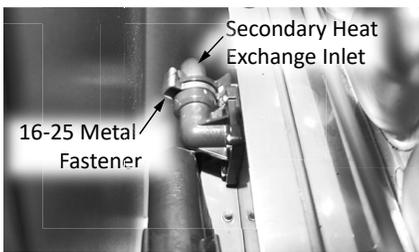
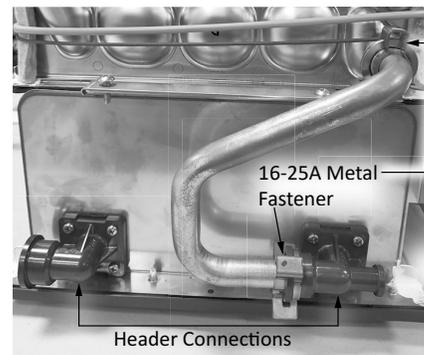

Figure 47: Secondary Heat Exchanger Inlet Connection.
Figure 53: Header Connection Removal
- 20 On the left-back side of the secondary heat exchanger, locate the copper pipe connected to the secondary heat exchanger inlet (# 466). Remove the 16-25A metal fastener and disconnect the copper pipe from the secondary heat exchanger. Space is restricted so you will need to have the pipes disconnected in steps 17 and 18 moved aside to allow access. Set the metal fastener aside for re-installation. See Figure 47.
- 25 Remove the 16-25A metal fastener securing the copper pipe to the primary heat exchanger (# 467). See Figure 53.
32 Reconnect the copper pipe (# 467) using the 16-25A metal fastener. Use the provided O-ring. Inspect the O-rings if any cuts or nicks are present replace it immediately. See Figure 53.
35 Reconnect the copper pipe (# 466) to the secondary heat exchanger inlet. See Figure 53. Use the 16-25A metal fastener. When placing the fastener, position the top (flat section) of the fastener to the ten o' clock position. See Figure 47.